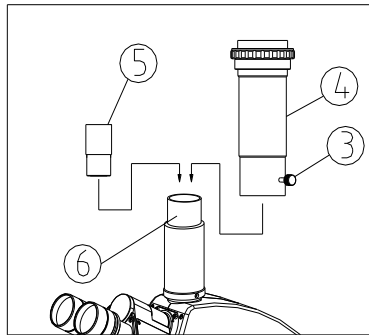

Fig.17
1. Take down the dust-cover② of the TV adapter③. Install the CCD or camera into the C-mount interface and tighten.
2. Loosen the lock screw① of trinocular head, take out the dust-cover②. (See Fig. 17)
3. Insert the TV adapter③ into the trinocular head according to the figure and screw down the lock screw①.
3. Loosen the lock-screw (3) of the photography adapter and take down the photography adapter (4) (See Fig. 17).
4. Insert the 3.2X photography eyepiece (5) into the eyepiece base (6), then install the photography adapter (4) and tighten the lock-screw (3).